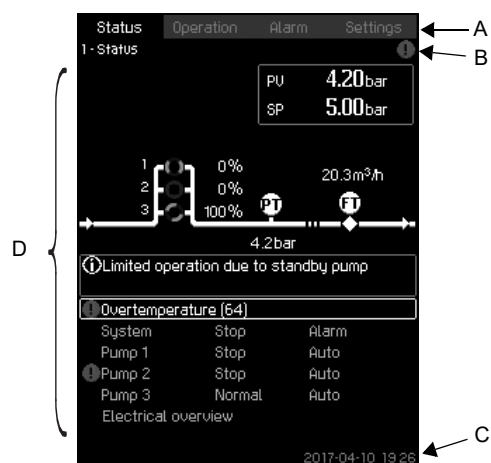

Fig. 5 Display design
The menu line (A) is illustrated in fig. 5.
The top line (B) is illustrated in fig. 5. It shows the following: